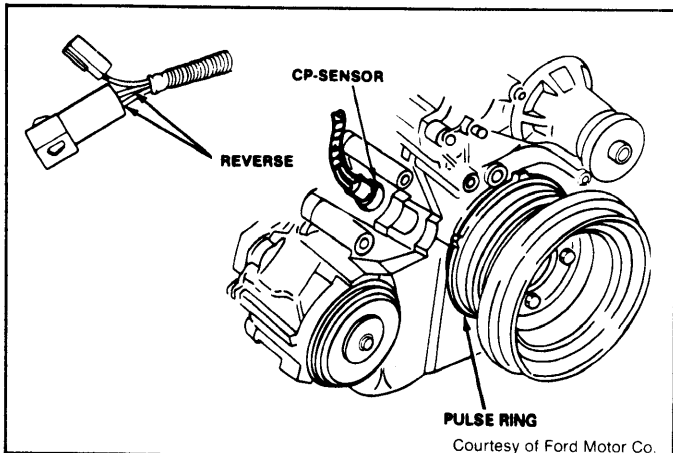

Fig. 17: Crankshaft Position Sensor Circuit
2) The cranking signal should be .15 volt during cranking and .20-.60 volt with engine running. The resistance of the sensor is 100-640 ohms. The polarity is positive on Dark Blue wire (circuit No. 349) and negative on Gray Wire (circuit No. 350). See Fig. 17.